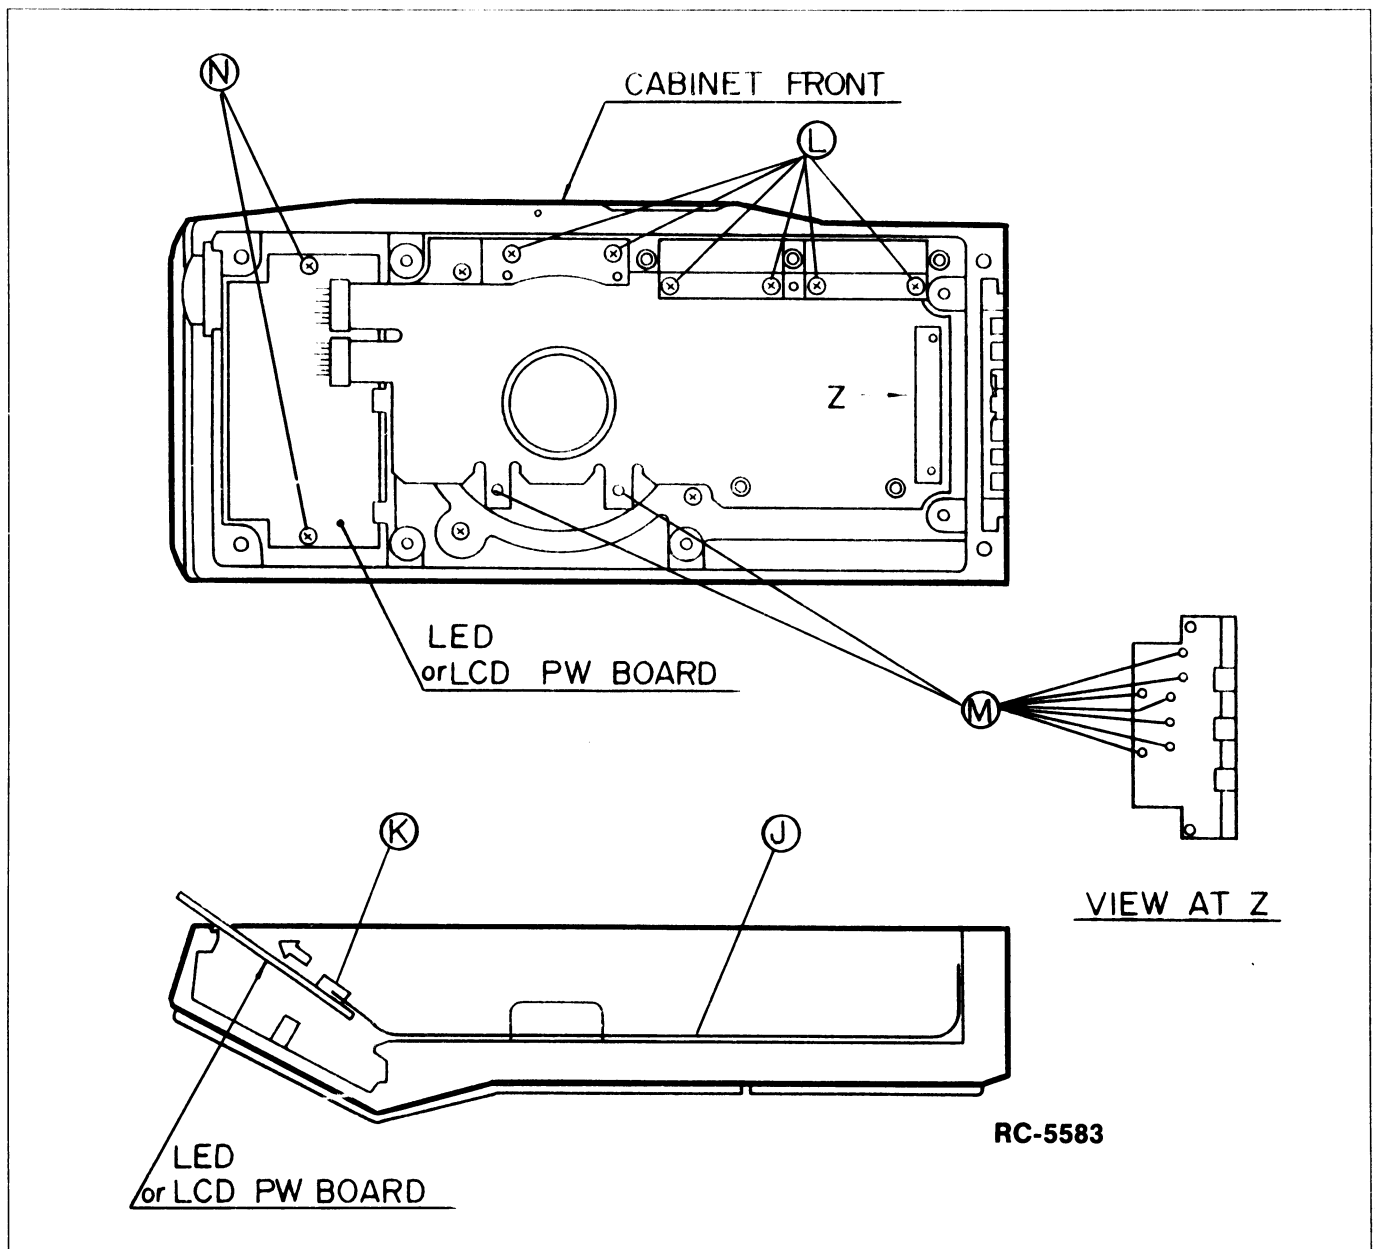

FIGURE 26 - DISASSEMBLY STEP 6
7. To remove the LCD PW Board, unplug the flex circuit (J) from connector (K). Remove 2 screws (N) using the Phillips head screwdriver. Remove the LCD or LED board. See Figure 26
8. To remove the Flexible Board, remove 6 screws (L) using the Phillips head screwdriver. Solder 9 points (M) using the soldering iron. Then remove the Flexible Board from the front cabinet. See Figure 26.